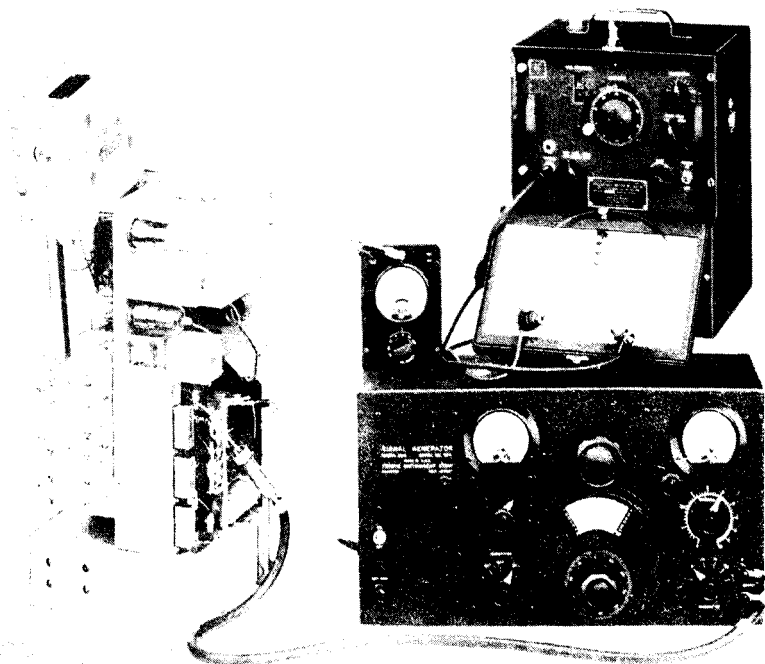
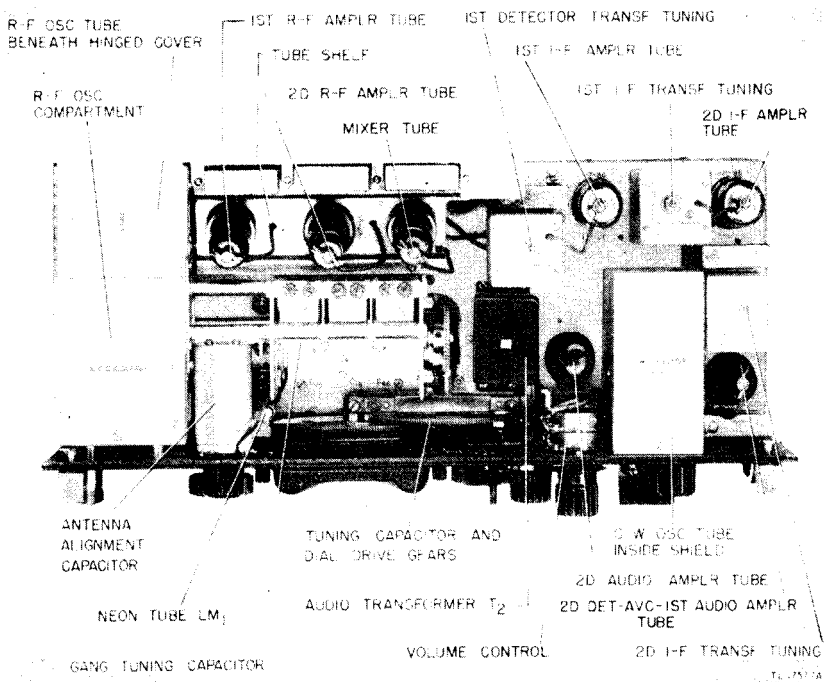

Figure 72. Typical test set up for receiver i-f alignment.
Figure 73. Receiver chassis, top view, showing alignment points.
a. PREPARATION. Set up the receiver and alignment equipment as shown in figure 72. Calibrate the signal generator for a 470-kc signal (h-f receiver models) or for a 92.5-kc signal (m-f receiver models). Remove the two screws from the top of the chassis that hold the dynamotor or rectifier in place. Remove the screw from the dynamotor or rectifier inner mounting hinge and swing the power supply assembly upward, securing it in position with a rack or a block of wood. Set the OFF-M.V.C.-A.V.C. switch to M.V.C., the CRYSTAL PHASING control to OUT (h-f models), the SELECT CONTROL at maximum (m-f models), the C.W.-OSC. switch to OFF, and the VOL control to maximum. Loosen the i-f transformer screw locknuts.
b. PROCEDURE. (1) Attach the signal generator ground lead to the receiver chassis and connect the dummy antenna (300-ohm resistor) between the grid cap of the second i-f amplifier tube and the output lead from the signal generator.
(2) Connect the output meter to the PHONES 2D AUDIO jack and adjust the signal generator output (modulated) to give a small deflection on the output meter, using the smallest scale possible.
(3) Adjust the second i-f transformer adjustment screws located on the top and bottom of the transformer (figs. 73 and 74) for a maximum output indication. Reduce the signal generator output whenever necessary during alignment to avoid overloading the receiver.
a. PREPARATION. Set up the receiver and alignment equipment as shown in figure 72. Remove the two screws from the top of the chassis that hold the dynamotor or rectifier in place. Remove the screw from the dynamotor or rectifier inner mounting hinge and swing the power supply assembly upward, securing it in position with a rack or a block of wood. Set the OFF-M.V.C.-A.V.C. switch to M.V.C., the SELECT CONTROL to maximum, the C.W.-OSC. switch to OFF, and the VOL control to maximum. Loosen the i-f transformer screw locknuts.
b. PROCEDURE. (1) Turn on the signal generator and the frequency meter and allow at least 15 minutes for them to warm up to insure frequency stability.
(2) Set the receiver tuning dial to any frequency on any band. For example: 200 kc.
(3) Plug the headset into the frequency meter and insert the end of a lead from the antenna post on the frequency meter into the receiver oscillator compartment (open hinged cover). Lay
(4) Tune the frequency meter to 92.5 kc above the frequency at which the receiver dial is set (200 + 92.5 or 292.5 kc if receiver is set at 200 kc). Then slowly tune the frequency meter dial back and forth, about 15 kc, until zero beat is heard in the headset.
(5) When zero beat is heard, check the frequency at which the frequency meter is set. If the frequency is not 92.5 kc above the frequency at which the receiver dial is set, adjust the receiver oscillator trimmer in small steps until a zero beat is heard in the frequency meter headset at *exactly* 92.5 kc above the receiver dial setting.
(6) When the r-f oscillator trimmer is finally adjusted to the desired frequency, tighten the locknut on this adjustment so that it cannot change. Disconnect the frequency meter but do not change the receiver dial setting.
(7) Calibrate the signal generator for the frequency at which the receiver dial is set (par. 83) and connect the output of the generator to the receiver antenna binding post through a 250- μ mf capacitor dummy antenna. Connect the output meter to the PHONES 2D AUDIO jack.
(8) With the signal generator frequency set in accordance with instructions in (7) above, and with the generator output 30-percent modulated at 400 cycles, adjust each i-f adjustment screw to obtain a maximum output indication on the output meter. Adjust the second i-f transformer first, then the first i-f transformer, and finally the mixer transformer. Repeat adjustments if necessary to obtain a maximum output indication.
(9) With the r-f oscillator and i-f stages adjusted properly, the r-f amplifier stages should be aligned as described in paragraph 88 below.
a. PREPARATION. Set up the equipment as for the i-f alignment (fig. 72). Calibrate the signal generator for a 470-kc signal (h-f model) or for a 92.5-kc signal (m-f model). If a signal generator capable of producing a 92.5-kc signal is not available, proceed as outlined in paragraph 85 above to obtain the required intermediate frequency. Set the OFF-M.V.C.-A.V.C. switch to M.V.C. or A.V.C., and the C.W.-OSC. switch to ON. Turn the C.W.-OSC. ADJUST control so that the arrow is horizontal, pointing toward the right. Remove the capscrew above the C.W.-OSC. switch, permitting access to the c-w oscillator adjustment screw. Plug a headset or loudspeaker into the receiver output jack.
b. PROCEDURE. (1) Attach the signal generator ground lead to
a. PREPARATION. Set up the equipment the same as for the i-f stage alignment. (See fig. 72.) Calibrate the signal generator for a 470-kc signal. Set the OFF-M.V.C.-A.V.C. switch to M.V.C. and the C.W.-OSC. switch to ON. Connect a headset or loudspeaker and an output meter to the receiver output.
b. PROCEDURE. (1) Attach the ground lead of the signal generator to the receiver chassis and connect the signal generator